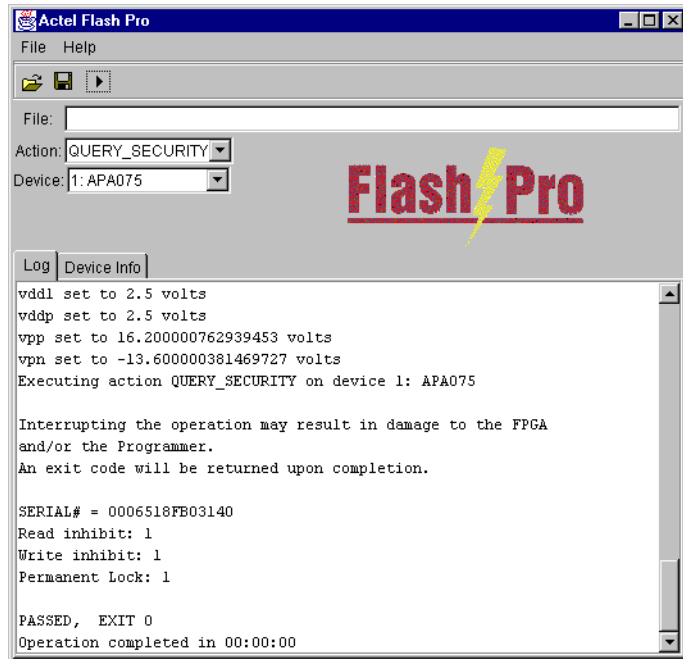

Figure 2-21. Query Results for the Permanently Locked Device
4. **Make your selections and click *Execute* to start programming.** The progress of the programming action is displayed in the Log window. The message 'Exit 0' indicates that the device has successfully been programmed as shown in Figure 2-21.